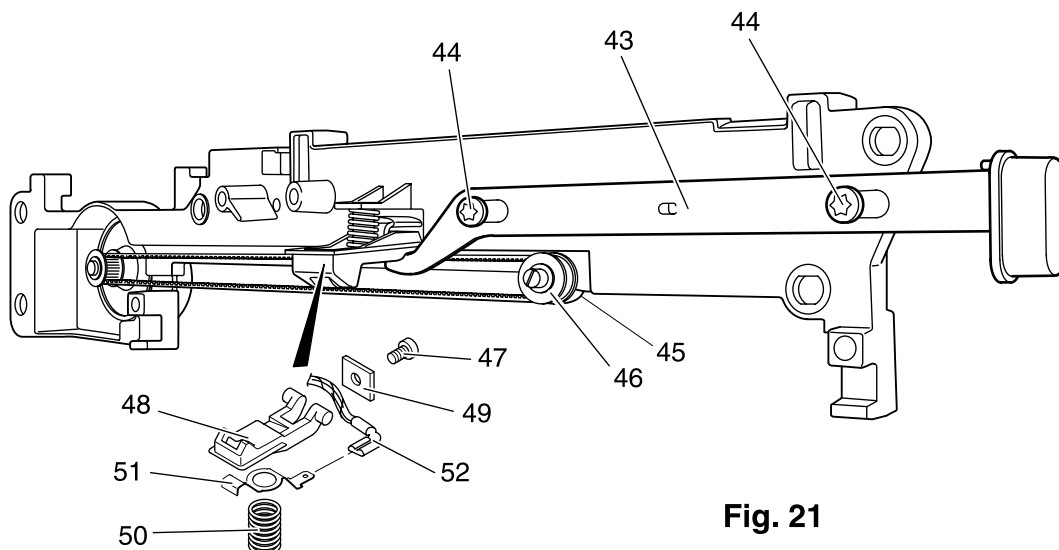

**Fig. 21**
13. Unscrew the two Torx screws 44 and remove the release lever 43 (Fig. 21).
3. Replace the plastic fastening clip 48 into the cut-out, insert the contact tin 51, the pressure spring 50 and the pressure plate 49 and tighten the Torx screw 47 (Fig. 21).